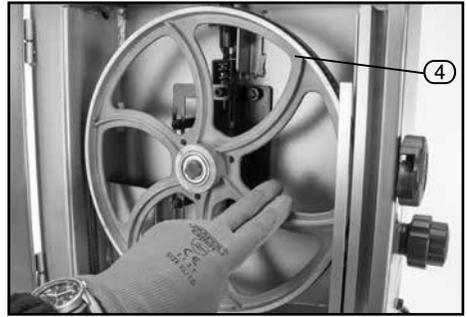

FIG. 17
9.8 TRACKING THE BLADE – FIGS. 17 – 18